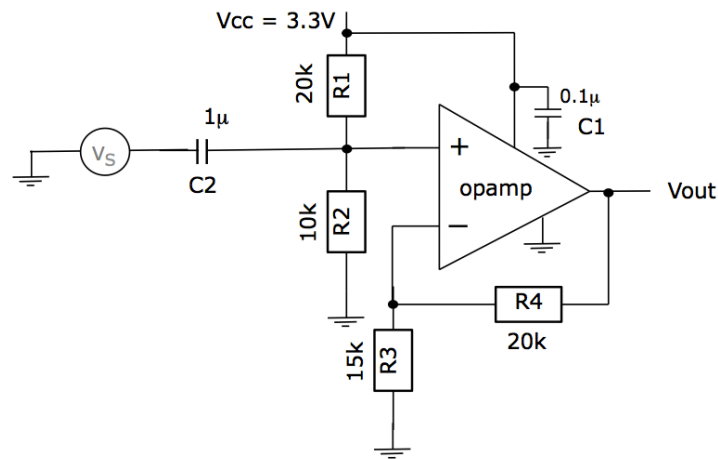

Figure 1.1
1. (a) *Figure 1.1* shows an amplifier circuit using an op-amp operating at 3.3V and has a gain-bandwidth product of 1MHz. It amplifies the input signal V_S and produces an output voltage V_{out} .